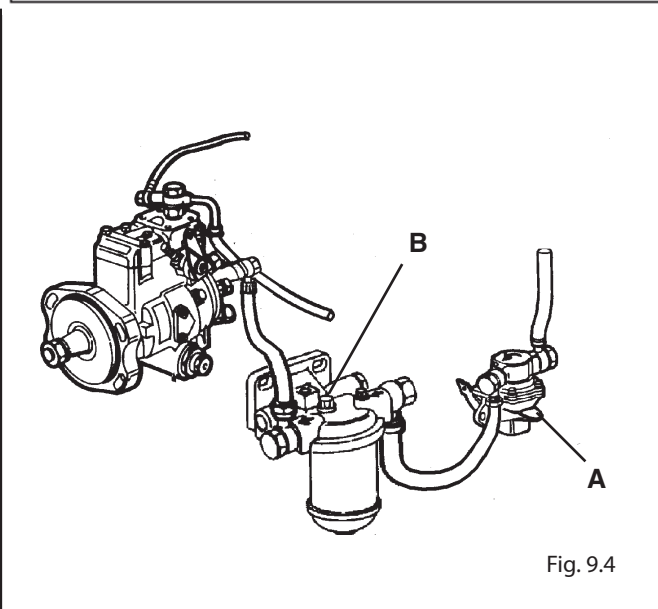

Fig. 9.4
9.3 STANADYNE CIRCUIT (ROTARY PUMP) (FIG. 9.4)